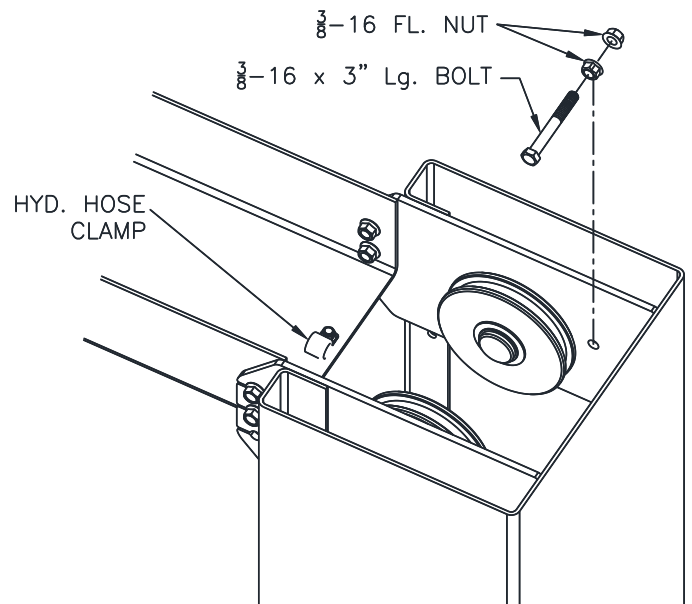

Fig. 9 – Cable Trapping
- 29) Remove Cable Trapping Hardware at the top of each column. Fig. 9. Route free end of cables coming out the top of the carriage up and over the upper sheaves and back down the opposite side. Do this for both cables and install the cable trapping hardware.